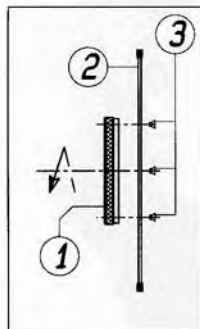

Figure 1
5. Changing the Arbor Orientation: To change arbor from right to left, See **Figure 1**. Turn blade **2** with dial hub assembly **1** face down. Remove Blade assembly screws **3**. Remove dial hub assembly **1** from blade **2** and set aside.